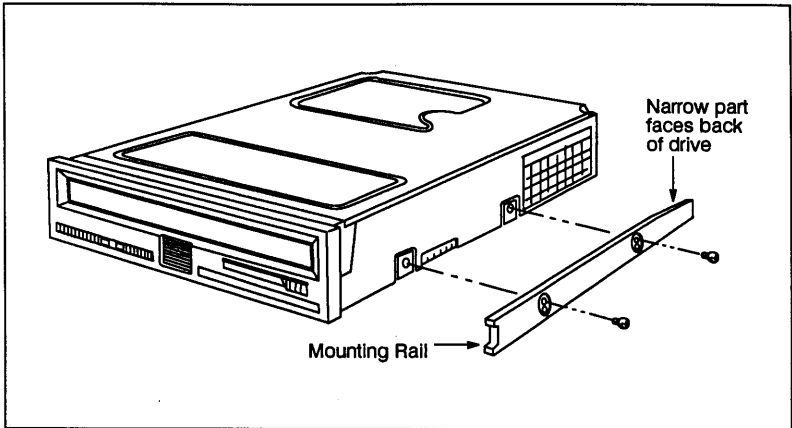

Figure 1-4. Mounting Rails
- d. If you have an IBM PC AT computer or compatible, you must attach the narrow mounting rails to the drive using the screws provided. The mounting rails should be attached so that the narrow part of the rail faces the back of the drive. See FIGURE 1-4.